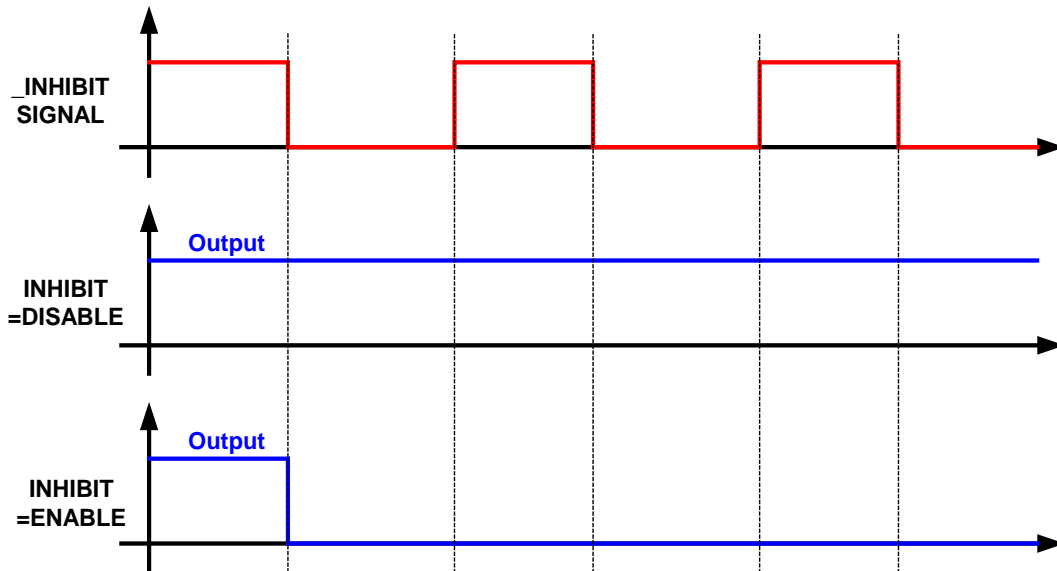

Figure 3-84
5. When the DC power supply is set to OUTPUT = ON, the detail actions of REMOTE INHIBIT are shown in Figure 3-84.